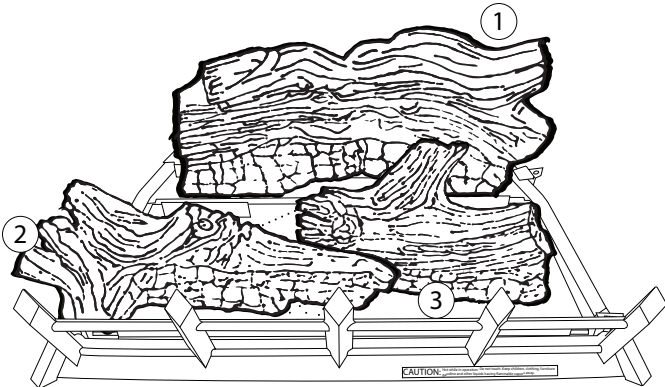

Figure 50.
3. Place the front center log (#3) on the pin located on the right side of the burner. (See Figure 50.)